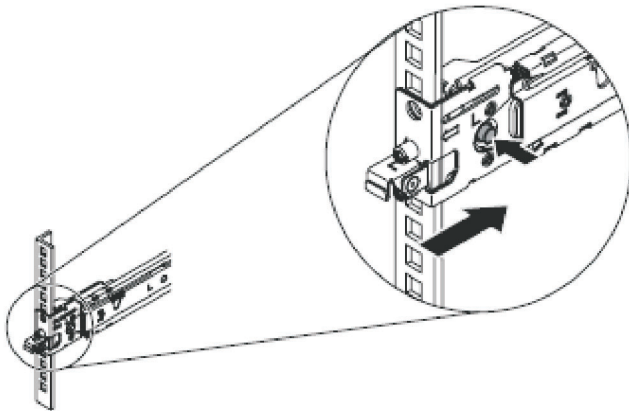

Figure 24. Installing the front end of the slide rails
5. Install the front end of the slide rails, as shown in Figure 24.